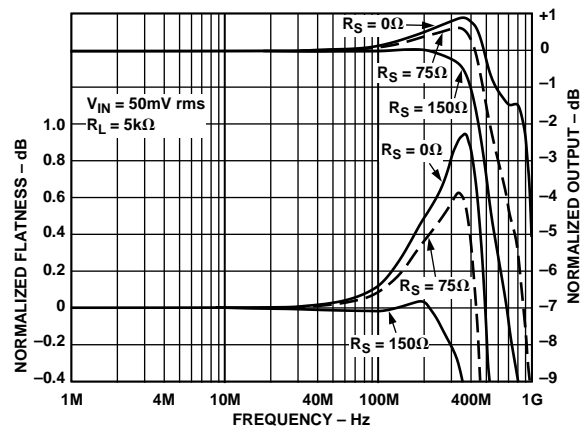

Figure 20. Frequency Response vs. Input Series Resistance
- 5A resistor ( $R_S$ ) placed in series with the mux inputs serves to optimize 0.1 dB flatness, but is not required. Increasing output capacitance will increase peaking and reduce bandwidth (see Figure 20.)
Each open-loop buffer is implemented as a complementary emitter follower that provides high input impedance, symmetric slew rate and load drive, and high output-to-input isolation due to its  $\beta^2$  current gain. The selected buffer is biased ON by fast switched current sources that allow the buffer to turn on quickly. Dedicated flatness circuits, combined with the open-loop architecture of the AD8180 and AD8182, keep peaking low (typically < 1 dB) when driving high capacitive loads, without the need for external series resistors at the input or output. If better flatness response is desired, an input series resistance ( $R_S$ ) may be used (refer to Figure 20), although this will increase crosstalk. The dc gain of the AD8180 and AD8182 is almost independent of load